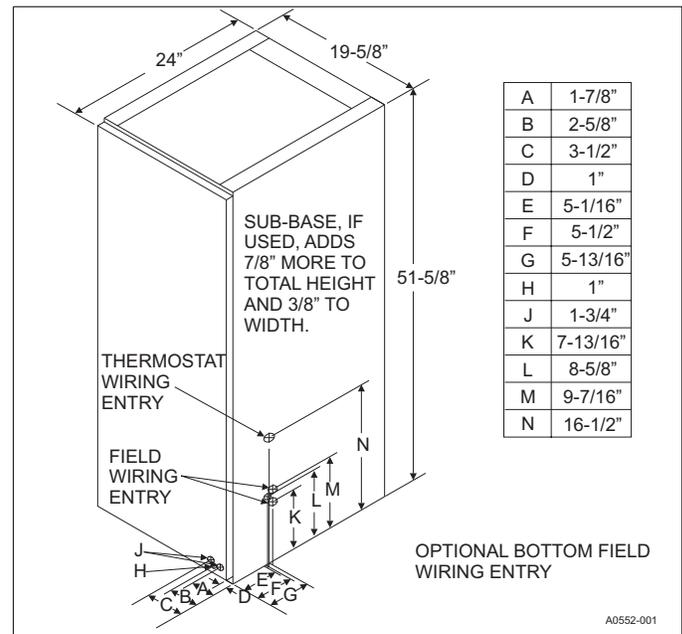

Figure 1: Furnace dimensions
- Furnace size is the same for all models. See Figure 1.